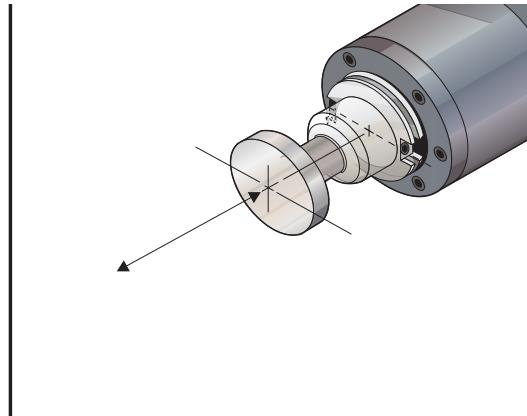

Figure 3.8-9.
NOTE: As an alignment aid, a 2.325" diameter disk mounted into a tool holder may be used (Refer to Figure 3.8-9). Handle jog as necessary to bring the disk in line with the center of the tool changer's fingers.
29. Handle Jog the spindle in the -Z direction (towards the front of the machine) and align the tool changer's fingers with the groove in the tool holder. Handle jog the spindle in the +X direction (towards the tool changer) and slowly move the tool holder into the extractor fingers. **STOP AND RE-ALIGN IF ANY MISALIGNMENT IS FOUND.** Continue to move the tool holder into the fingers until the drive notch on the side of the tool holder is approximately 0.050 in. from bottoming out on the carousel's alignment key. Refer to Figure 3.8-9.